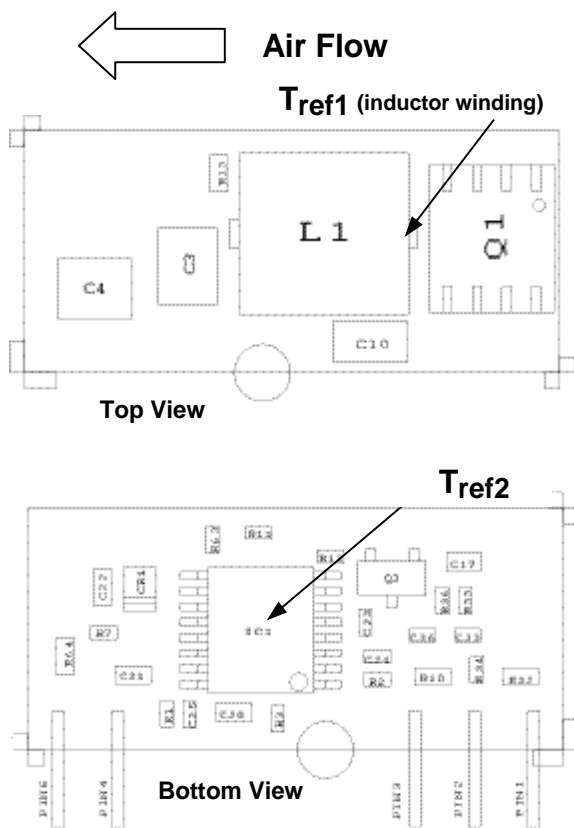
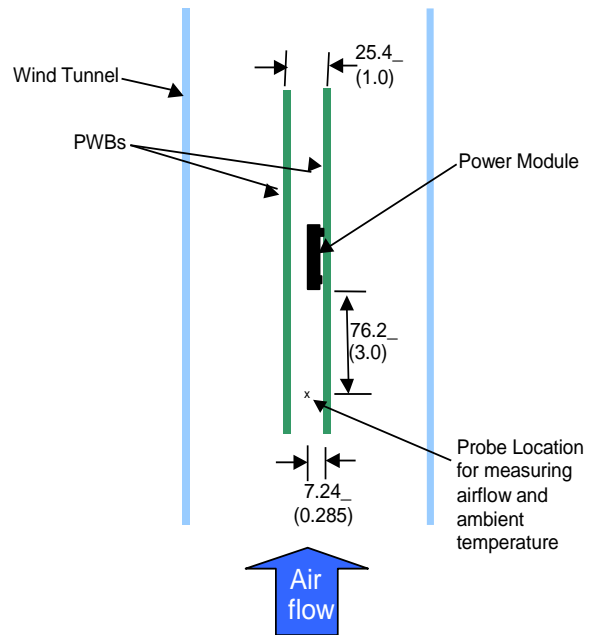

Figure 32. Tref Temperature measurement location.
Figure 33. Thermal Test Set-up.
To provide over temperature protection in a fault condition, the unit relies upon the thermal protection feature of the controller IC. The unit will shutdown if the thermal reference point  $T_{ref2}$ , (see Figure 33) exceeds  $140^{\circ}C$  (typical), but the thermal shutdown is not intended as a guarantee that the unit will survive temperatures beyond its rating. The module will automatically restarts after it cools down.
Considerations include ambient temperature, airflow, module power dissipation, and the need for increased reliability. A reduction in the operating temperature of the module will result in an increase in reliability. The thermal data presented here is based on physical measurements taken in a wind tunnel. The test set-up is shown in Figure 33. Note that the airflow is parallel to the long axis of the module as shown in Figure 32. The derating data applies to airflow in either direction of the module’s long axis.
The thermal reference point,  $T_{ref1}$  used in the specifications of thermal derating curves is shown in Figure 32. For reliable operation this temperature should not exceed 125°C.